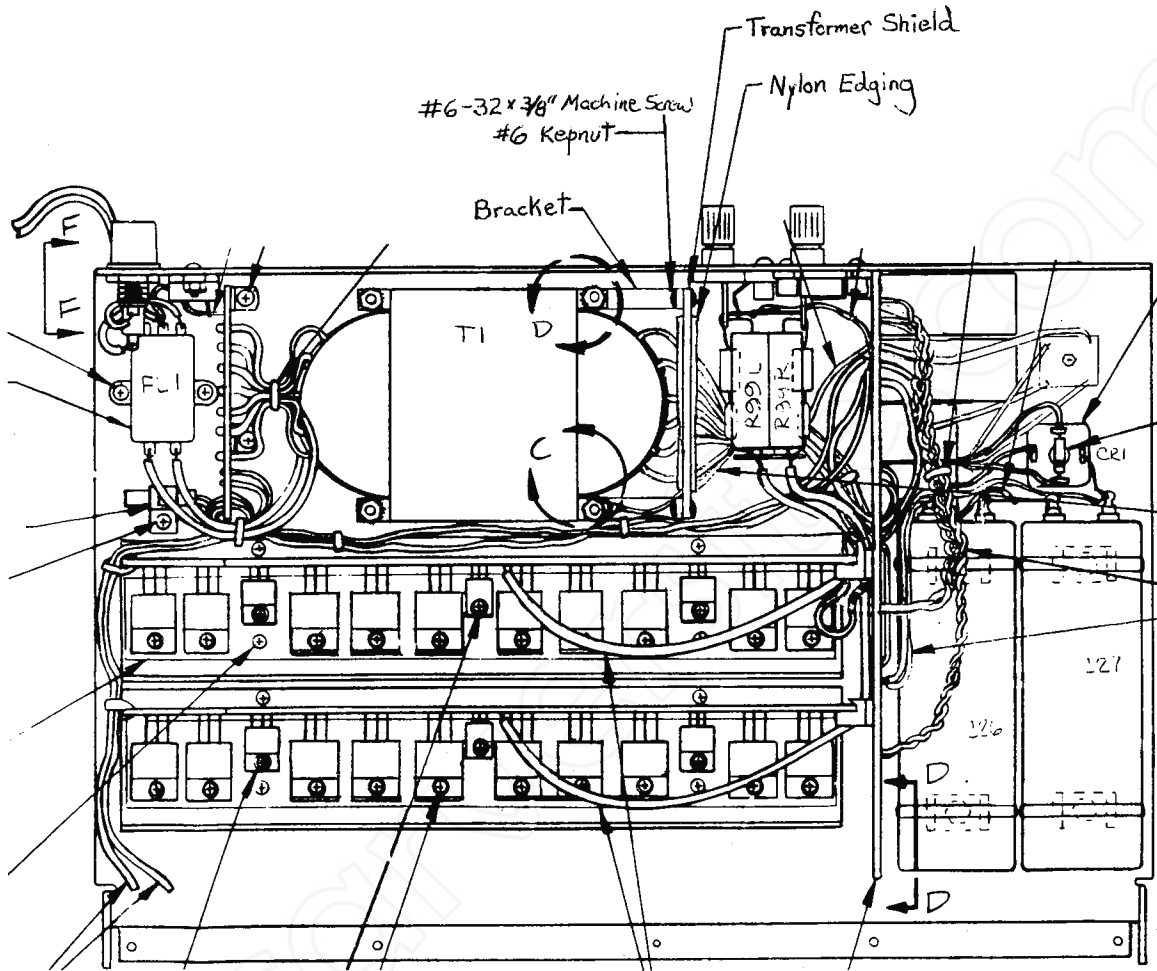

Figure 1.
3. Remove upper nut from the two transformer mounts on the right hand side of the transformer (side nearest speaker output binding posts). Install transformer shield assembly so that the holes in the long end of the two brackets are positioned over the transformer mounting bolts and the shield is positioned between the transformer and the speaker output binding posts (see Figure 1).